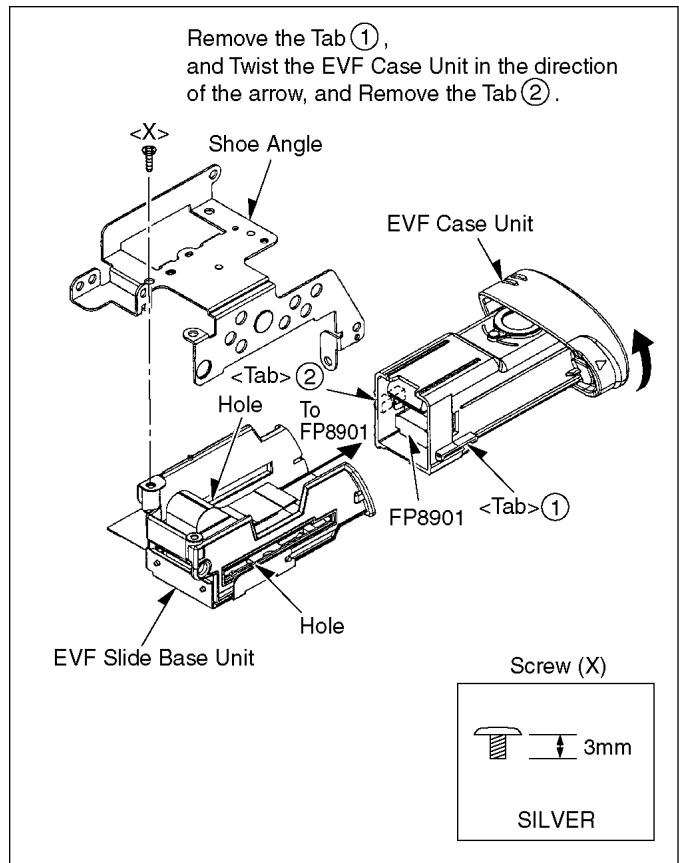

Fig. D18
| | | Fig. D18 | 1-Screw (X) Shoe Angle Remove the Tab(1), and Twist the EVF Case Unit in the direction of the arrow, and Remove the Tab(2). 1-Connector FP8901 EVF Slide Base Unit EVF Case Unit |